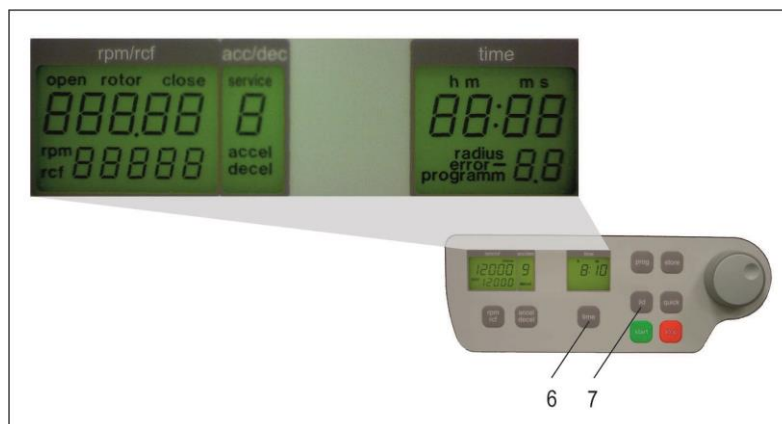

Figure 5
If the centrifuge is still turned off, press the keys, "time" (6) and "lid" (7) simultaneously, turning on the main switch of the centrifuge. Now release both keys. As a result, a display test is administered for approx. 5 seconds. All possible indications will appear at the same time (see Figure 5).